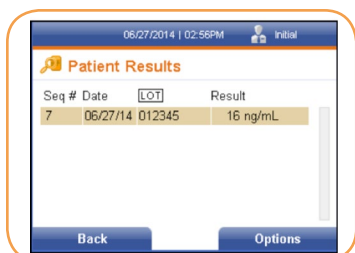

FIGURE 64
4. Press the right soft key to select to view the patient results by Patient ID (Figure 64).